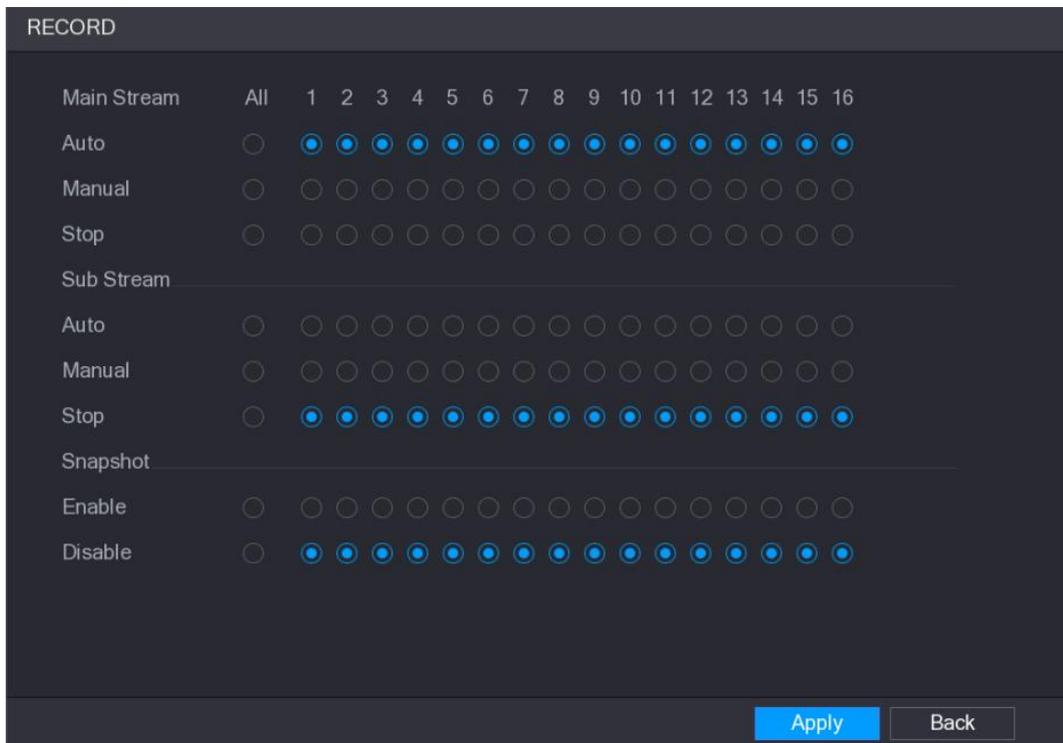

Figure 5-92
**Step 1** Right-click on the live view screen, the shortcut menu is displayed. On the shortcut menu, select **Manual > Record Control**. The **RECORD** interface is displayed, see Figure 5-92.